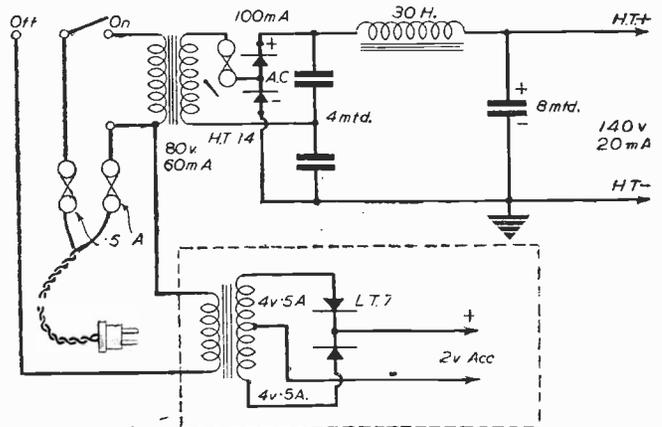

Fig. 2.—A combined H.T. eliminator and trickle charger for A.C. mains. If not required, the trickle-charger portion (enclosed by a broken line) may be omitted.
A.C. mains are more usual than D.C., but the necessary eliminator is slightly more complicated due to the fact that a mains transformer and rectifier are required to step down the mains supply and to convert the A.C. into D.C. Fig. 2 shows a convenient type of circuit where provision is also made for charging the accumulator from a separate transformer and rectifier. The H.T. mains transformer should, of course, be chosen to suit the rectifier to be used, and in Fig. 2 it is assumed that a Westinghouse type H.T. 14 metal rectifier is to be used connected in a voltage-doubler circuit. This provides a maximum output of 140 volts, 20 mA, and the necessary transformer has a secondary wound to provide 80 volts at 60 mA.
A very economical method of accumulator trickle charging is possible with A.C., since a transformer can be used to step down the mains voltage to that required to operate a 2-volt output metal rectifier. The L.T. transformer shown in Fig. 2 has a centre-tapped secondary, each half of which should give 4 volts at .5 amp. The output from the L.T.7 rectifier shown is 2 volts at .25 amp. The single-pole change-over (Q.M.B. switch) shown serves to switch on the H.T. unit (in the "on" position) or to bring the accumulator on charge (in the "off" position). If it is not required to charge the accumulator at any time when the receiver is out of use the two transformers can be disconnected by switching off the wall switch or removing the mains plug. As with a D.C. eliminator, switch the L.T. on before the H.T. and off after the H.T. It is not strictly necessary to disconnect the accumulator from the set while it is on charge, but some readers may prefer to do so since the voltage will be slightly in excess of normal while the accumulator is still on charge.